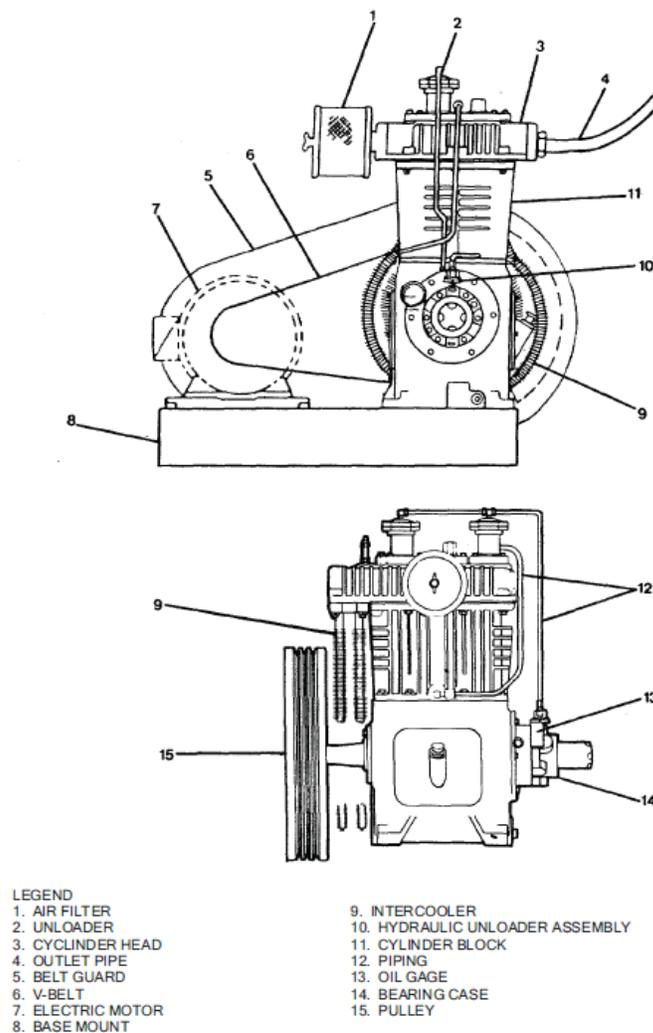

Figure 551-88L-3051\_03
3. Demonstrate basic for troubleshooting the air compressor, (refer to Figure 551-88L-3051\_03).